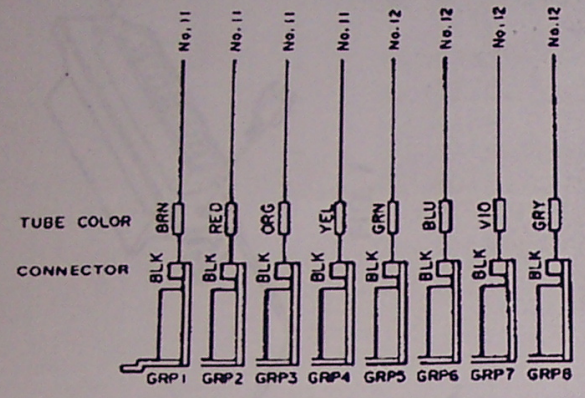

FIG. 5
3. Refer to Figure 5 and plug the provided wires no. 11 and 12 into the GRP 1-8 connectors on the JACK (C) and (D) PCBs.